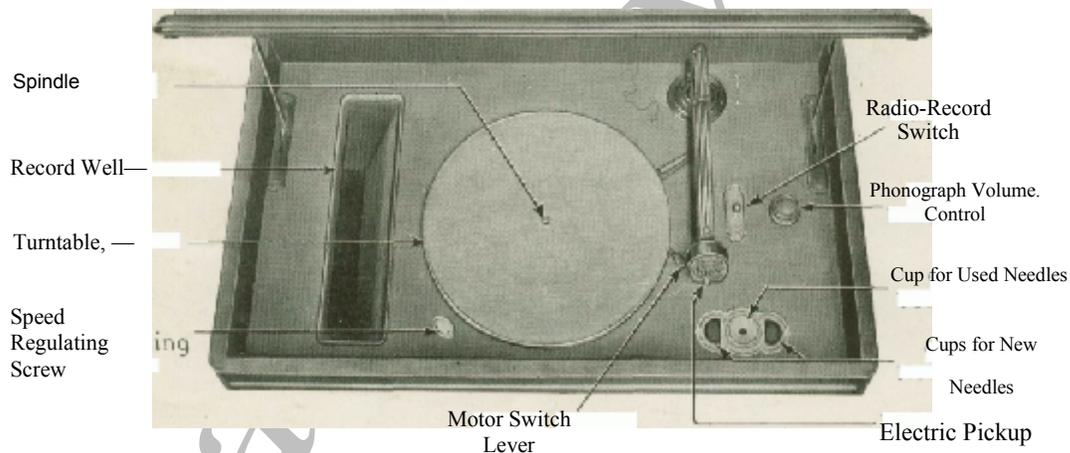

Fig. 5. RCA Radiola 47—Showing Phonograph Compartment
2. Remove the tape used to secure the electric pickup (Fig. 5).
Turntable—Swing the electric pickup to the extreme right and pull the Motor Switch Lever forward (see Fig. 5). Hold the turntable in both hands, and carefully lower it over the spindle. Make certain that the pin in the spindle is engaged with the slot in the turntable hub.
Cup for Used Needles—Insert the cup for used needles in the hole between the two cups for new needles, and attach the cover (see Fig. 5).
1. Set the Radio-Record Switch to "RADIO" (see Fig. 5).
Refer to Fig. 5 and proceed as follows:
Record a—The records should usually be kept in the envelopes. Those in constant use, up to 30, may be stored (without the envelopes) in the record well which is provided in the cabinet (see Fig. 5).